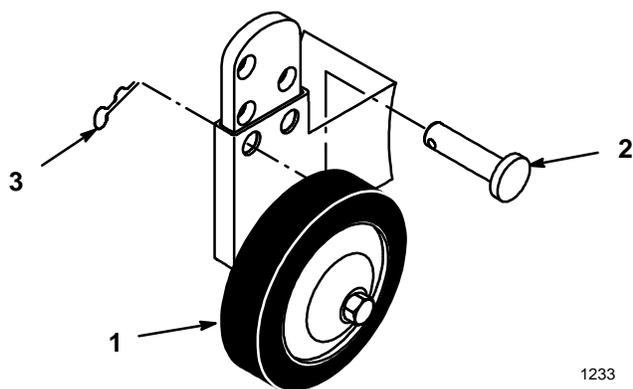

Figure 27
2. To adjust wheel height off the ground, remove the hairpin cotter and pin to change hole location (Fig. 27).
3. Select a hole position so the wheel is 3/8" (9.5 mm) off the ground for the height-of-cut position to be used (Fig. 27).